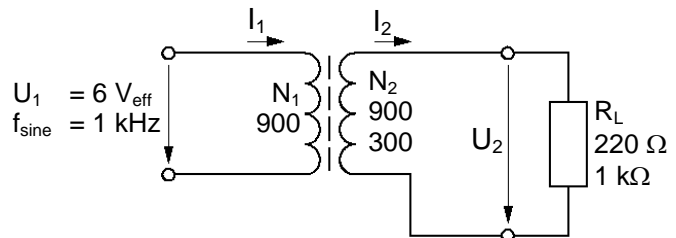

Fig. 18.4.10: Exercise circuit, transformer $N_2 = 900$ or 300 with core
- Assemble the circuit shown in Fig. 18.4.10 on the Electronic Circuits Board. First, use the secondary coil with $N_2 = 900$ windings.